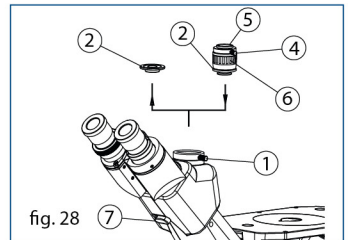

fig. 28
- (Fig. 28) Loosen the lock-screw (1) on the photo tube and take off the cap (2)
- Take off the caps of c-mount adapter (3), place the adapter on the photo tube and lock by screw (1)
- Fix camera to c-mount (5)
- Adjust the image while looking through the eyepieces, then pull the light path shifting switch (7) to the left. Now you can observe the image produced by the camera. If it is not clear, you can adjust the length of the c-mount adapter (6) till the image is in focus